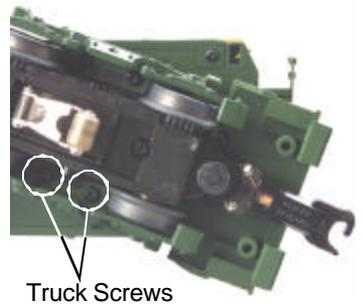

Figure 4. Screws to Remove to Access the Traction Tires
First, remove the truck sides from the truck block. To do this, turn your engine upside down. If there are visible Phillips screw heads between the truck frame and truck block (see Fig. 4), go to step A. If not, go to step B.
B. Remove the trucks from the chassis and the truck sides from the trucks in order to slip the new tire over the grooved drive wheel. See Fig. 4 for which screws you must remove to do this.
Follow the cab removal instructions found in the “Lubrication and Greasing” section of this booklet. Once the body has been removed, remove the lightbulb as shown in Fig. 4 and replace it.